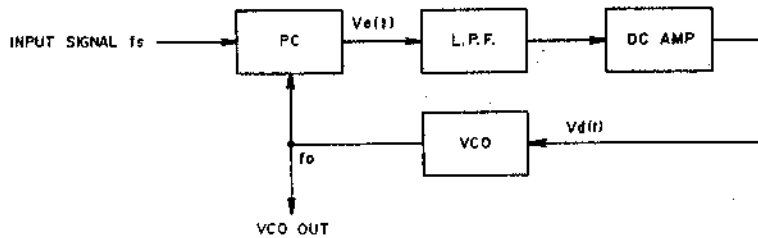

Fig. 13 PLL Circuit
PLL circuit is a kind of feedback circuit and is comprised of a Phase Comparator (PC), a Low Pass Filter (LPF), a Direct Current Amplifier (DC Amp.) and a Voltage Control Oscillator (VCO) as shown in Fig. 13. The PC compares input signal F_s and VCO oscillator output and generate the difference in signal voltage $V_e(t)$ proportionately to this phase deviation. This $V_e(t)$ passes LPF and the DC Amp. and becomes control voltage. This control voltage supplied to VCO and VCO oscillation frequency is DC controlled. When there is no input signal F_s , because there is also no $V_e(t)$, control voltage $V_d(t)$ becomes zero, and VCO maintains a *Free-running oscillation frequency. When a signal enters, VCO oscillation frequency F_o is controlled to narrow the difference between F_s by means of feedback as described above, and the PLL circuit assumes a synchronous condition. This is referred to as input signal lock. (In case the difference between F_o and F_s is too large, the differential signal frequency becomes high and is reduced at the LPF. However, because the VCO control voltage does not change, PLL will not stay within the *lock range).
On the other hand, the difference signal of both (L-R) is changed to high frequency through the use of the sub carrier, and is referred to as the sub channel signal. The carrier is further frequency modulated and sent to the FM stereo transmitter. Accordingly, for composite stereo signal demodulation, the sub carrier used for demodulation at the transmitter must be the same uniform 38 kHz signal as the frequency and phase. If the 38 kHz waveform is asymmetrical, channel separation will become poor. At the PLL employed MPX stereo demodulator circuit, as shown in Fig. 13 first a 76 kHz signal is oscillated and when this passes the divider, a symmetrical 38 kHz signal is obtained.